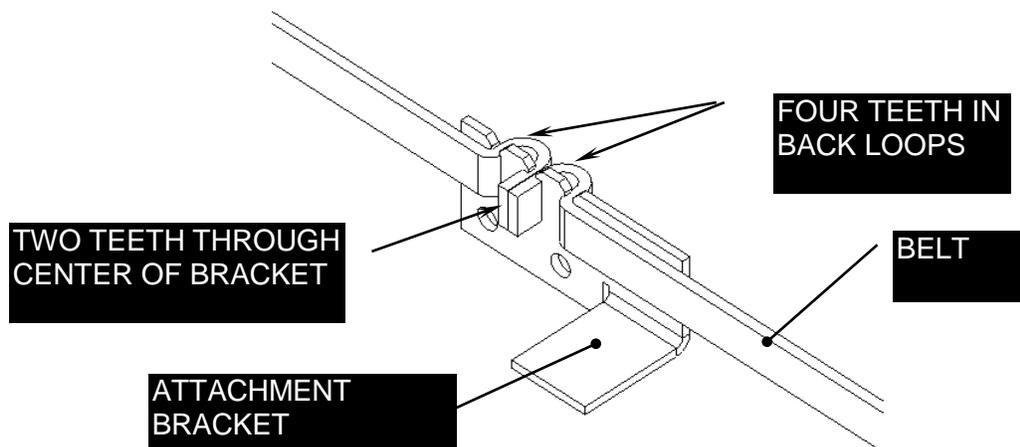

Figure 8-15: Replacing the Belt
3. Remove the belt from the attachment bracket (Figure 8-15).
1. Cut a 1026mm length of the Gates Rubber belt LL2MR06, 2mm Pitch x 6mm wide and fit the two cut ends in to the Y Belt Attachment Bracket with two teeth through the center and four teeth in the back loops as shown in Figure 8-15.